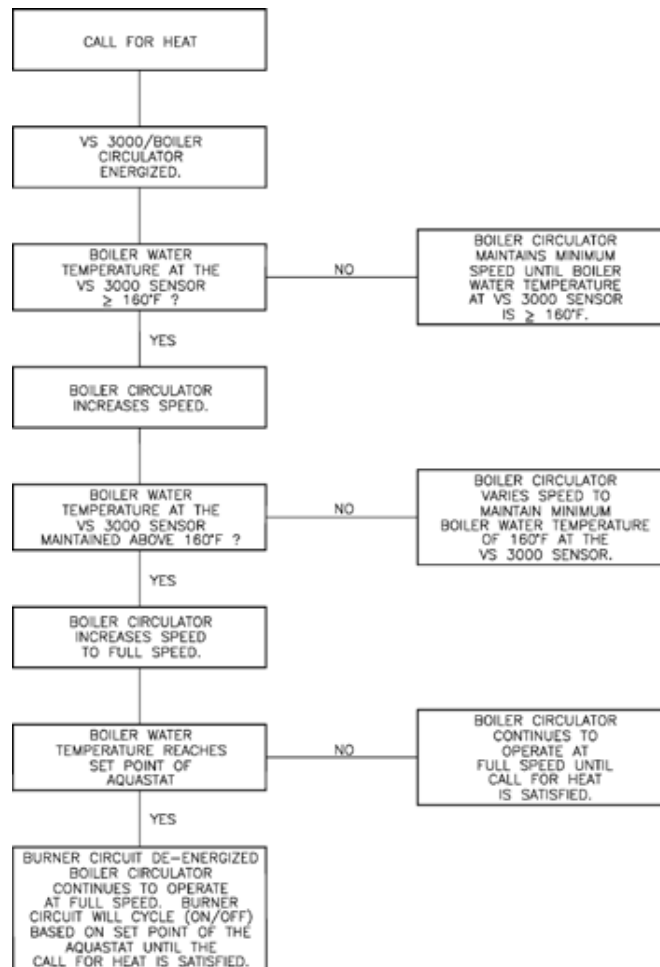

Figure 49: Variable Speed Control Sequence of Operation
1. Initiate a call for heat and observe the boiler's temperature gauge and the VS3000 "% on" LED. Refer to Sequence of Operation, Figure 49.